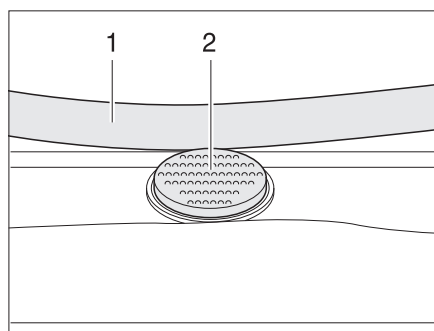

Fig. 22 Securing knob at the hinged skylight
- Press the safety knob (Fig. 22,2) and pull the bar (Fig. 22,1) down with both hands.
- Push the bar upwards with both hands until it is above the safety knob (Fig. 22,2).